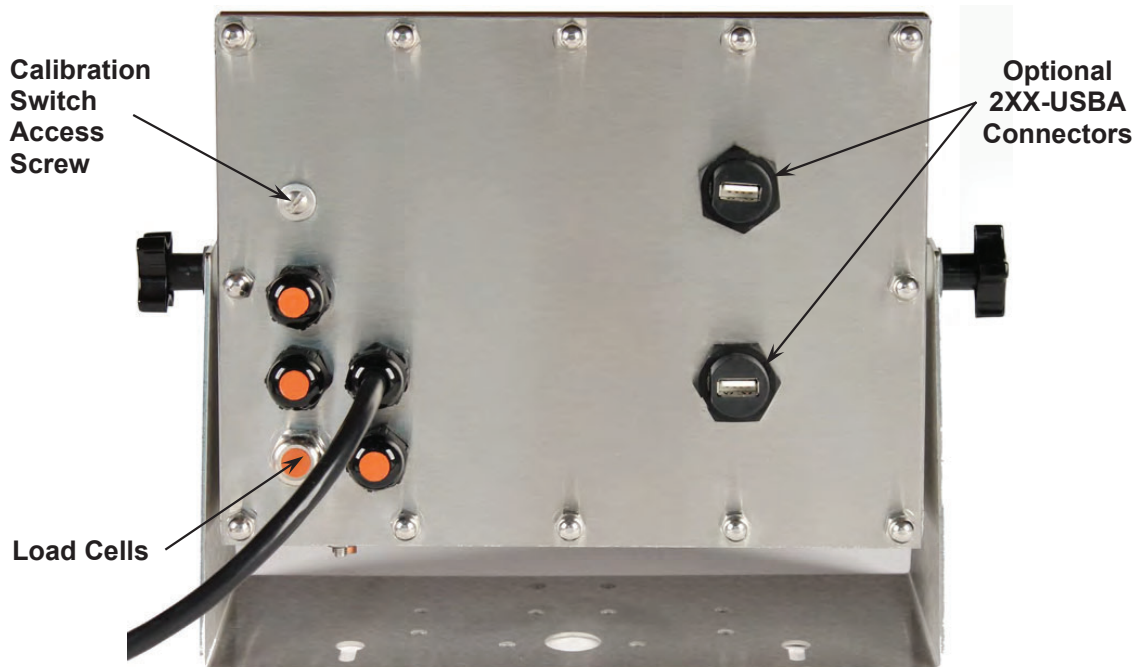
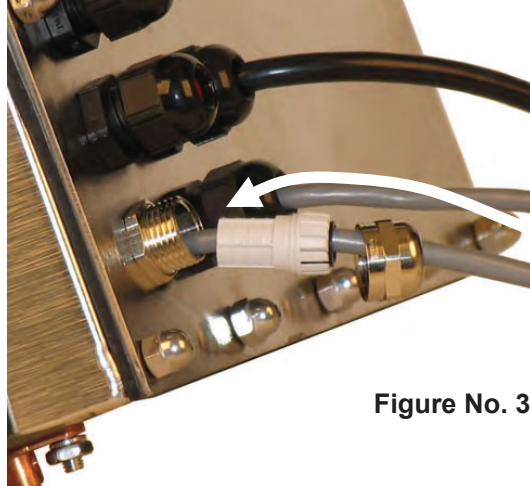

Figure No. 2
Figure No. 3
The load cell cable should be routed through the special metallic gland connector and the shield wire must be connected to this gland connector for grounding and to eliminate RFI. Refer to Figure No. 2 and Figure No. 3 for the appropriate gland connector.
1. Remove the 12 acorn nuts securing the back panel to the main housing, and then loosen a gland connector for the load cell cable. Refer to Figure No. 2 for an illustration of the connector layout.
1. Remove the 12 acorn nuts securing the back panel to the main housing, and then loosen a gland connector for the serial cable. Refer to Figure No. 2 for an illustration of the connector layout.